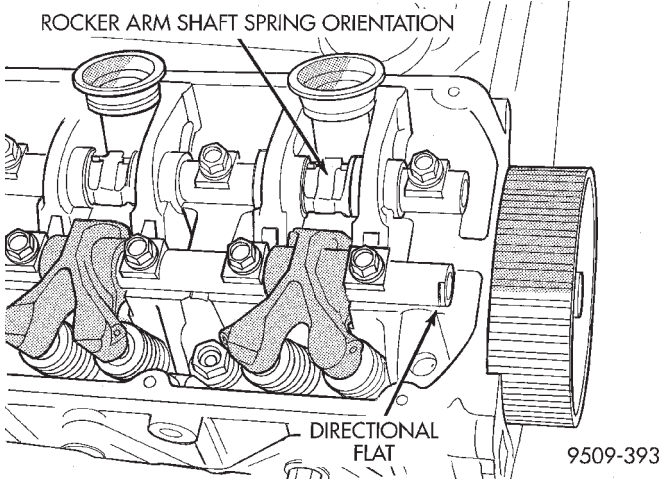

Fig. 47 Rocker Arm Shaft Flat
- (1) Install rocker arm and shafts with the FLAT on the shafts facing the timing belt side of the right cylinder head (Fig. 47). For the left cylinder head, install rocker arm and shafts with the FLAT on the shafts facing the transmission side of the engine.